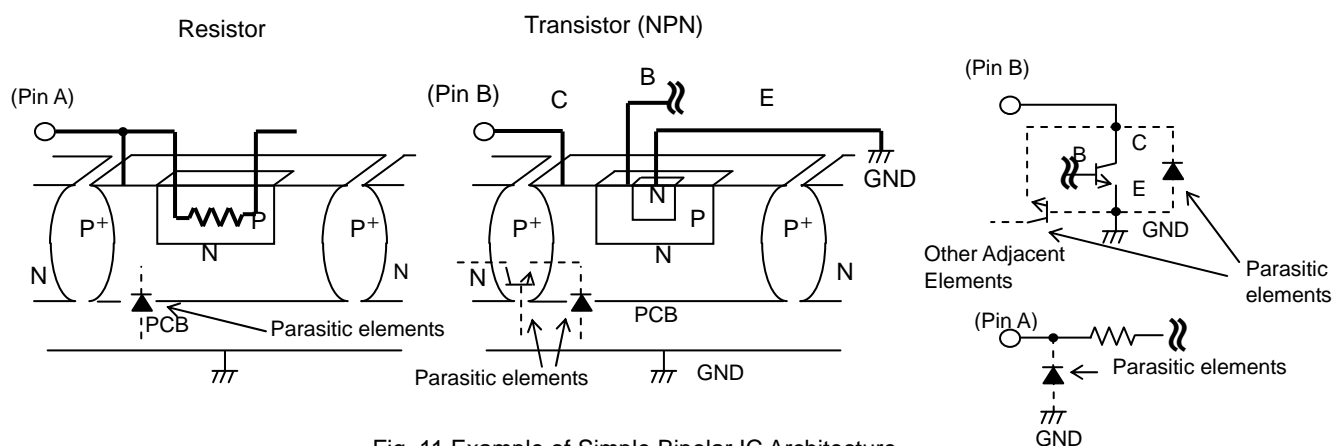

Fig. 11 Example of Simple Bipolar IC Architecture
- 12) Regarding input pin of the IC (Fig 11)